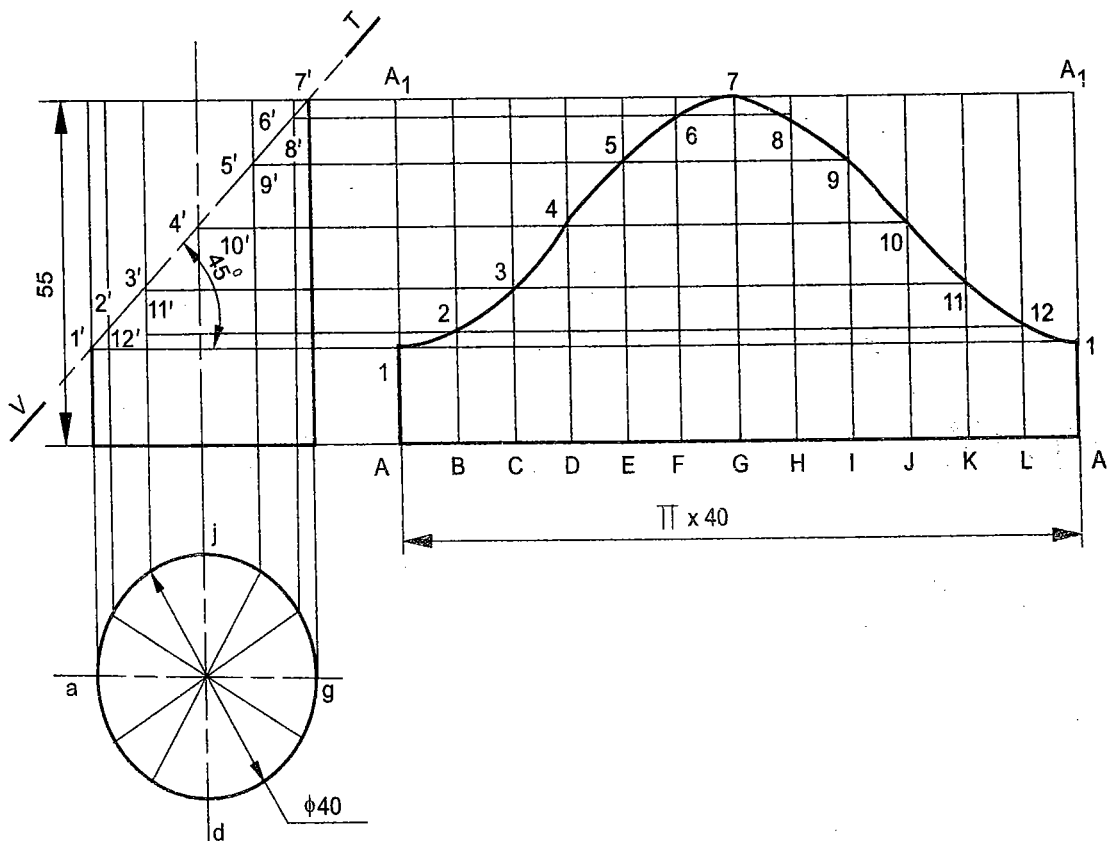

Fig.13.4
**Construction (Fig. 13.4)**
6. Repeat steps 7 and 8 of Construction: Fig. 13.4 suitably and obtain the development of the cut cylinder.